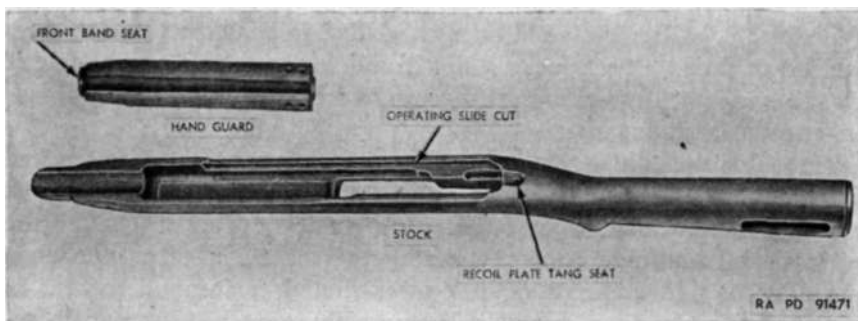

Figure 64. Stock and hand guard — carbine, cal. .30, M2.
*d.* STOCK (M2). Inspect stock the same as for M1 and, in addition, examine clearance cut on right for disconnecter, and clearance cut on left for the selector. There must be no binding of the selector or disconnecter due to undersized cuts. (See fig. 64.)